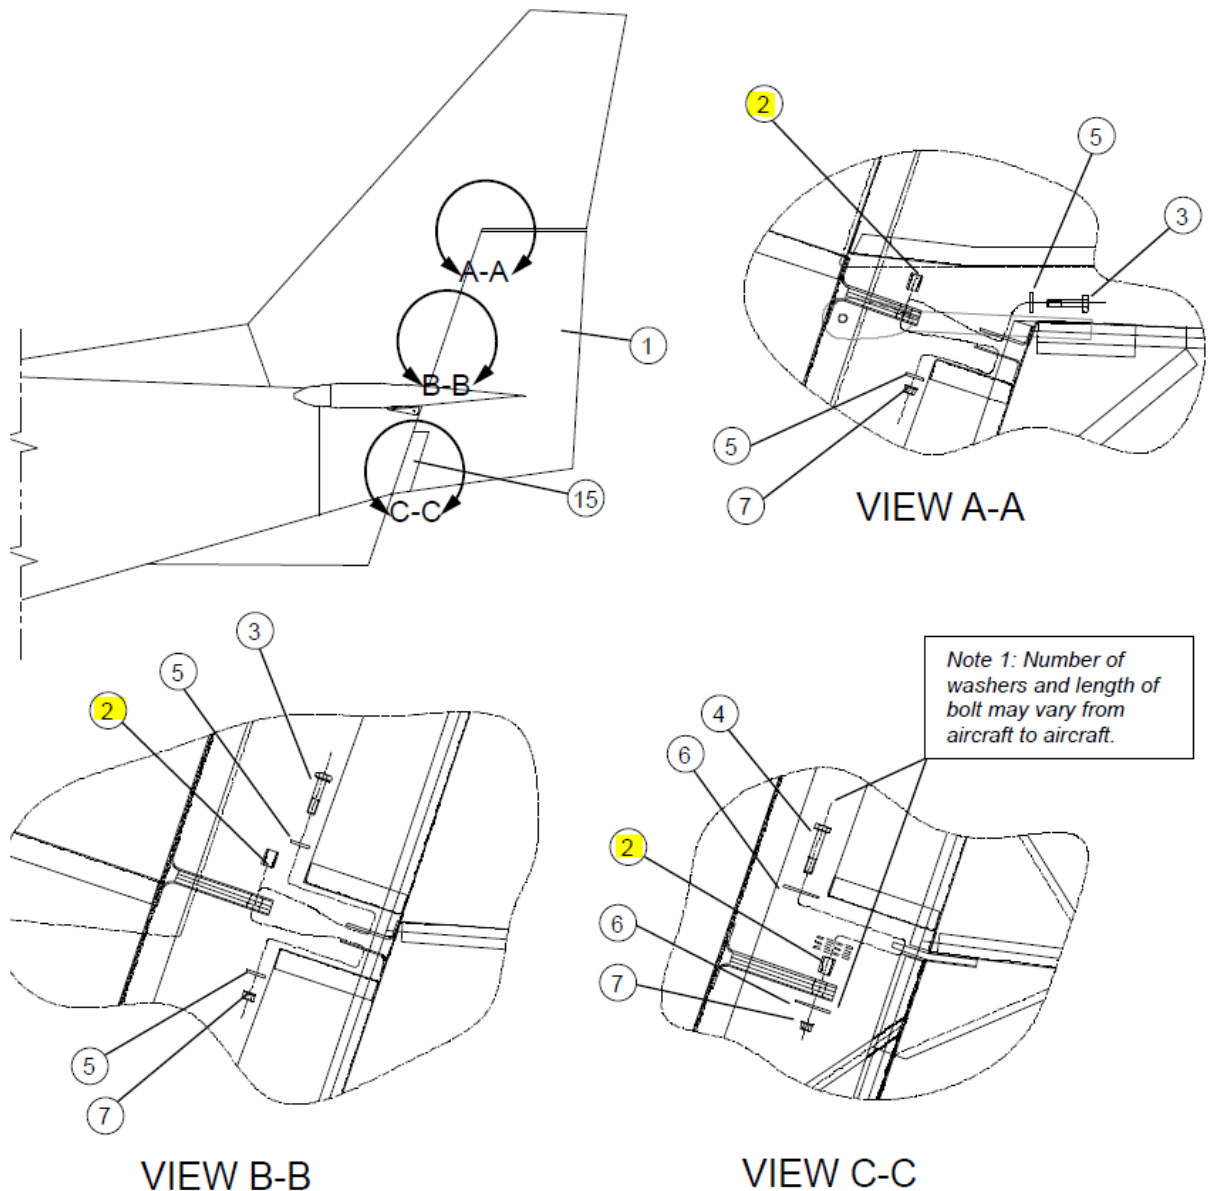

Figure 1: Rudder Hinge Bush Installation
1. Remove item 1 in Figure 1, the Rudder Assembly (GA8-554011-011), from the aircraft in accordance with the GA8 Service Manual section 27-20-10. Retain items 3 and 4, the hinge bolts, and items 5,6, and 7, the associated washers and nuts, for re-installation, if serviceable.
2. Referring to Figure 1, remove item 2 the three (3) Rudder Hinge Bushes (GA8-554021-025) from the rudder assembly and discard.
4. Prepare the three replacement Rudder Hinge Bushes, (GA8-554021-025), item 1 from Table 2, for installation by lubricating with general purpose grease such as MIL-PRF-81322 or equivalent.
5. Install item 1 in Figure 1, the Rudder Assembly (GA8-554011-011), into the aircraft in accordance with the GA8 Service Manual section 27-20-15, fitting the replacement Rudder Hinge Bushes (GA8-554021-025), item 1 from Table 2, and using serviceable hardware. Apply lubrication in accordance with the GA8 Service Manual section 12-20-30. Ensure the mass balance is fitted and confirm correct locking of the hinge and cable attachment fasteners.